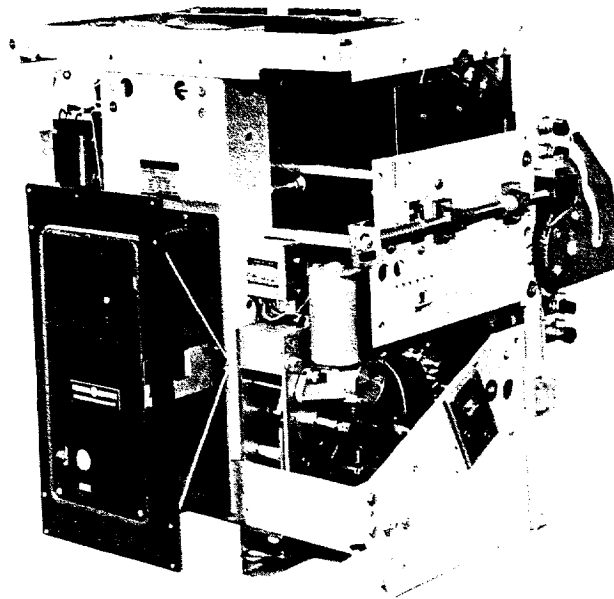

FIG. 7 AKR-6F-75 ELECTRICALLY OPERATED (SUBSTRUCTURE TYPE)
5.7 CODE F (AKR SUBSTRUCTURE) (Fig. 7)